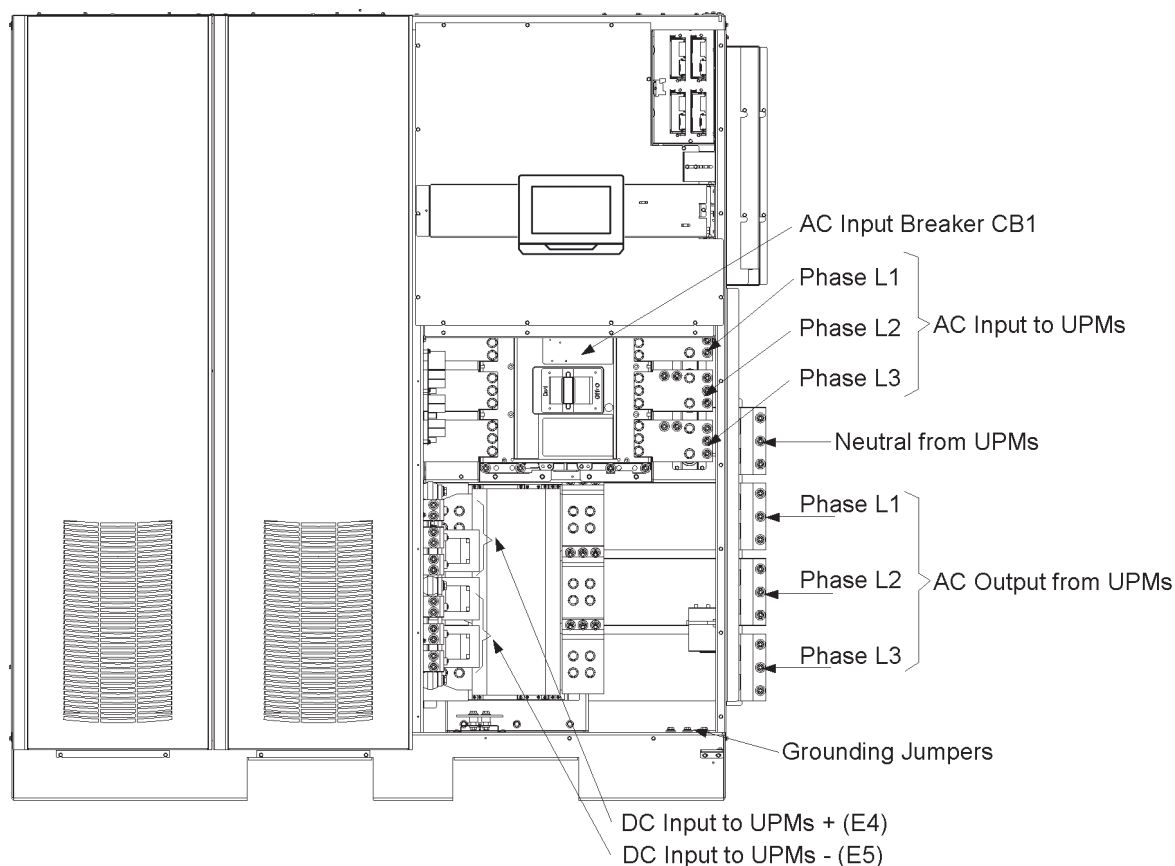

Figure 4-6. UPS ISBM section inter-cabinet power terminal locations
5. Locate the CB1-2/UPMx, CB1-4/UPMx, CB1-6/UPMx power wiring harnesses. Route these harnesses through the wiring access in the right side panel of the ISBM section to the AC Input to UPMs terminals. See Figure 4-6 on page 41 for terminal locations.
8. Locate the E4/UPMx and E5/UPMx power wiring harnesses. Route these harnesses through the wiring access in the right side panel of the ISBM section to the DC input to UPMs terminals. See Figure 4-6 for terminal locations.
10. Locate the E12/UPMx, E9/UPMx, E10/UPMx and E11/UPMx power wiring harnesses. Remove wire ties as necessary to enable routing cables to the ISBM AC output from UPMs terminals. See Figure 4-6 for terminal locations.